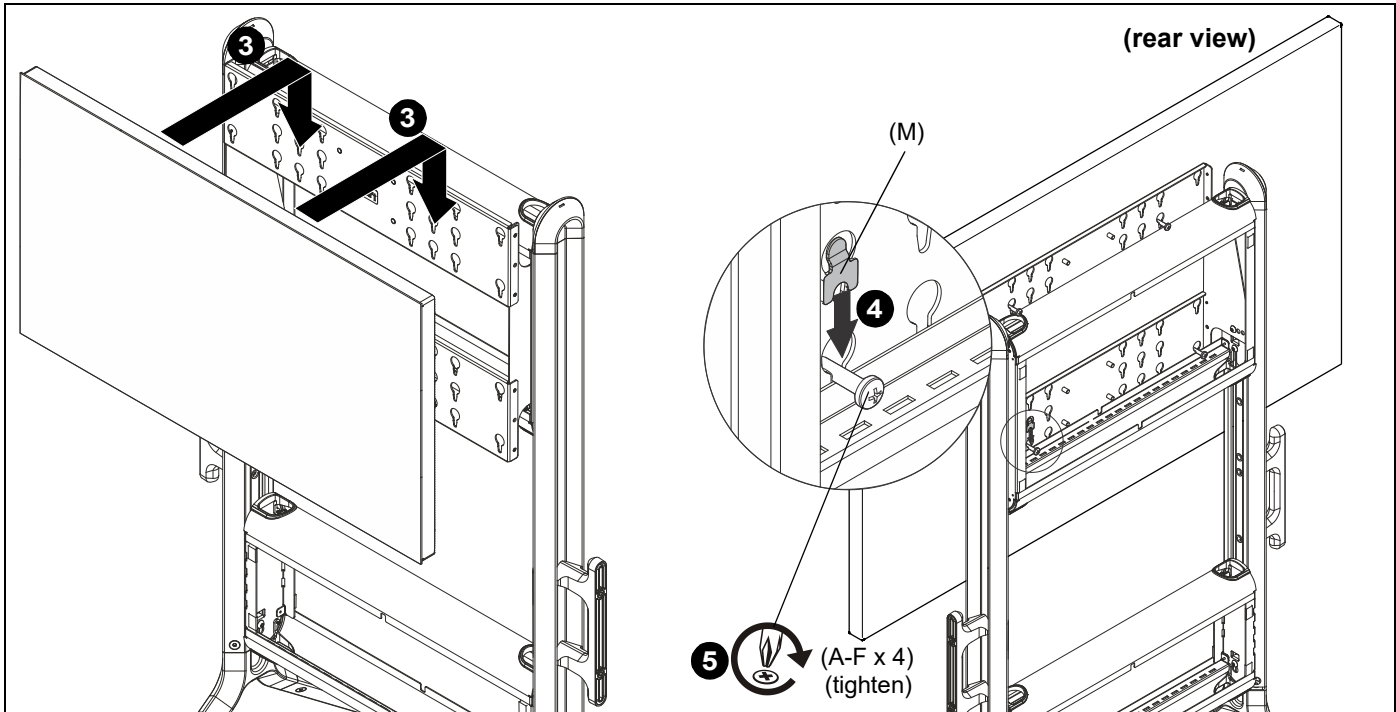

Figure 11
3. Install display to cart by inserting screws (A-F) into corresponding mounting holes. (See Figure 11)
4. Slide locking plate (M) over top of one of the screws (A-F) to provide necessary stability before tightening screws. (See Figure 11)
5. Tighten all screws (A-F) to make sure display is securely connected. (See Figure 11)